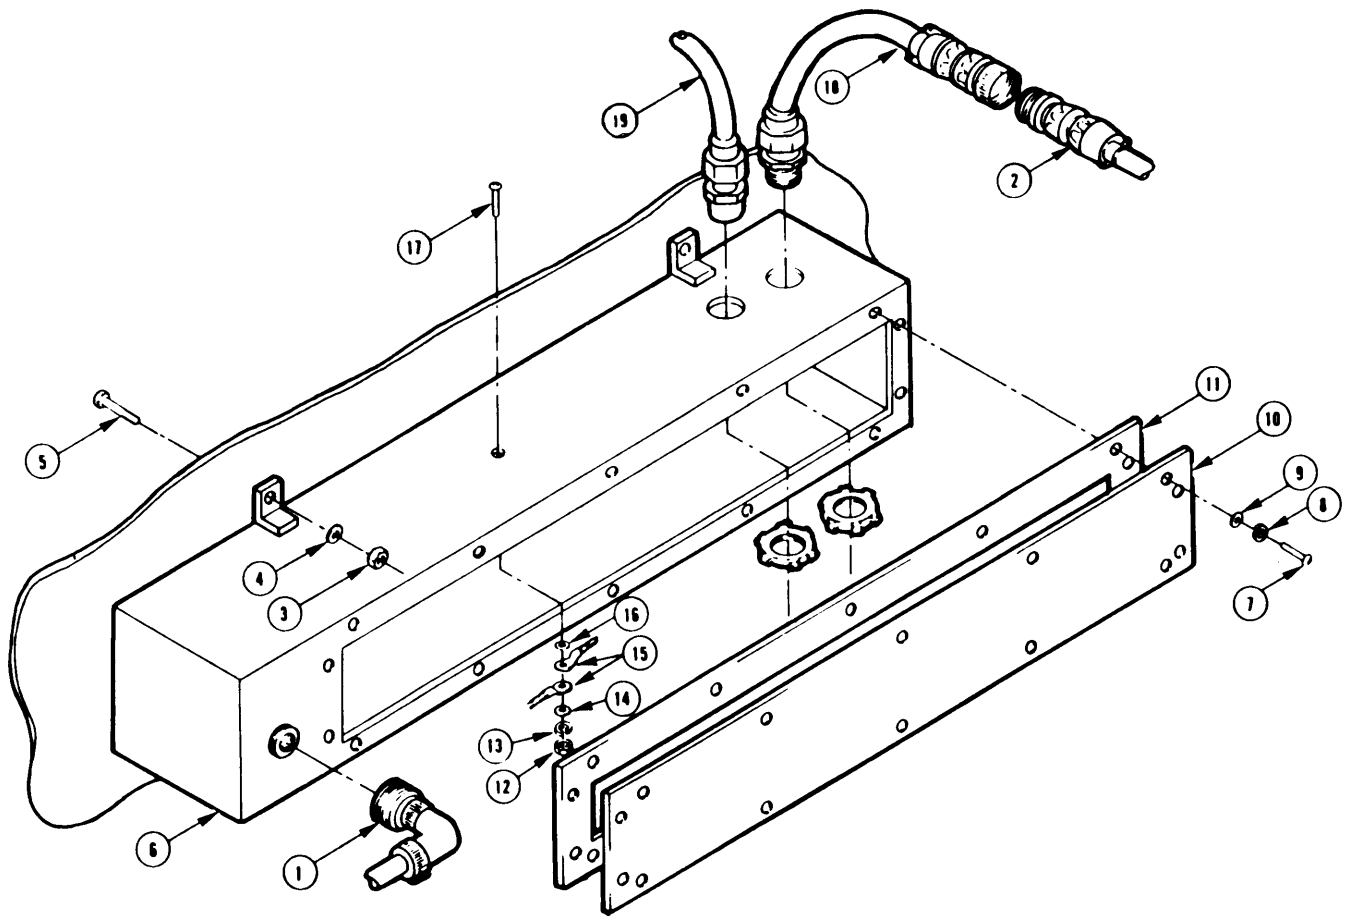

Figure 2-54. Control Box Assembly
b. Removal. (Figure 2-54)
- (1) Disconnect power cable (1) from control box assembly (6).
- (2) Disconnect backwash timer control connector (2) from control box assembly connector (18).
- (3) Disconnect panel light cable (19) from panel light in accordance with paragraph 2-66.
- (4) Remove four nuts (3) and four lockwashers (4) from four bolts (5) that secure control panel.
- (5) Remove control box assembly (6) from control panel.
c. Disassembly. (Figure 2-54)
(1) Remove fourteen screws (7), fourteen lockwashers (8), and fourteen flat washers (9) from control box assembly and cover (10).
(2) Remove cover (10) and gasket (11) from control box assembly. Discard gasket (11).
- (12) Install gasket (11) and cover (10) on control box assembly (6) using fourteen flatwashers (9), fourteen lockwashers (8), and fourteen screws (7).
h. Installation. (Figure 2-54)
- (1) Hold control box assembly (6) in place.
- (2) Insert four bolts (5) into control panel and control box assembly (6).
- (3) Install four lockwashers (4) and four nuts (3) on bolts (5).
- (4) Connect panel light cable (19) from panel light in accordance with paragraph 2-66.
- (5) Connect backwash timer control connector (2) to control box assembly connector (18).
- (6) Connect power cable (1) to control box assembly (6).